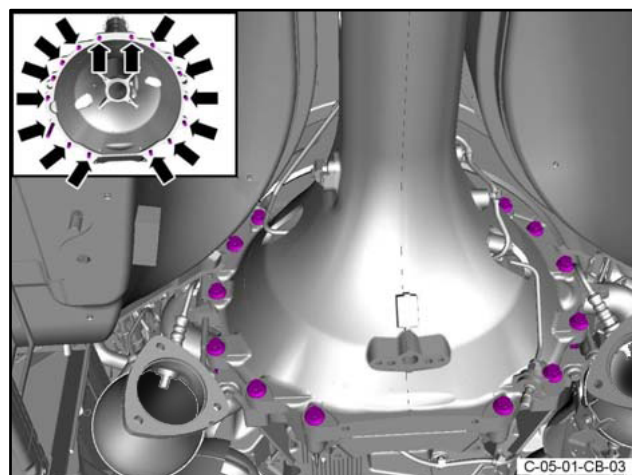

Figure 39
78. Install the 16 bolts that attach the torque tube assembly to the engine (refer to Figure 39).